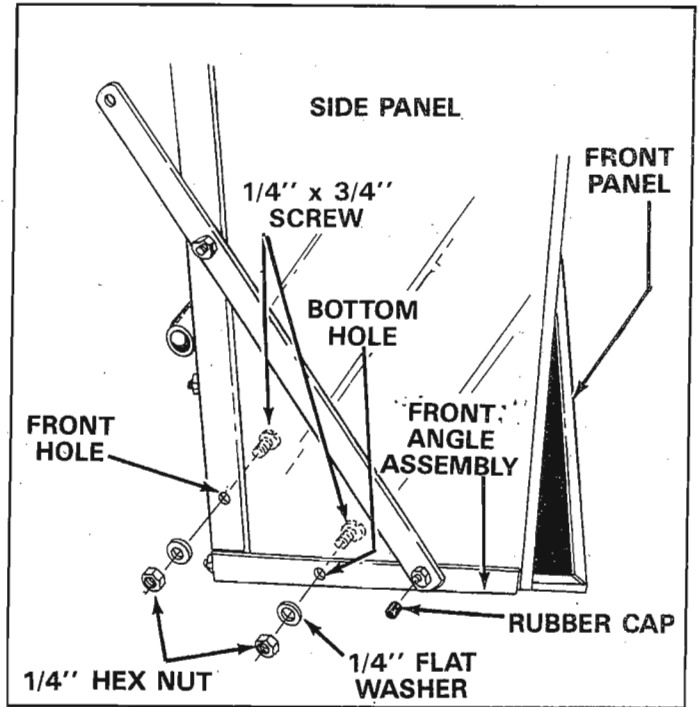

FIGURE 7
- Now tighten all nuts and screws securely.** Install rubber cap on top screws installed in step 10 and step 11 as shown in figure 7.